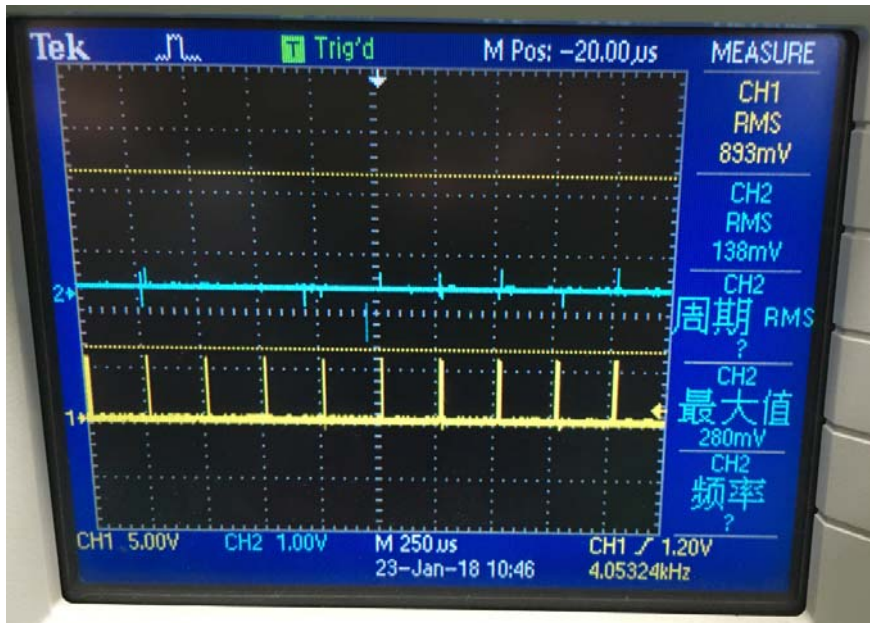

Fig1.1.3b The oscilloscope display of output voltage₂
1.1.3b CH1 is 0.3V, and CH2 is 0.138V, See Fig1.1.3b.